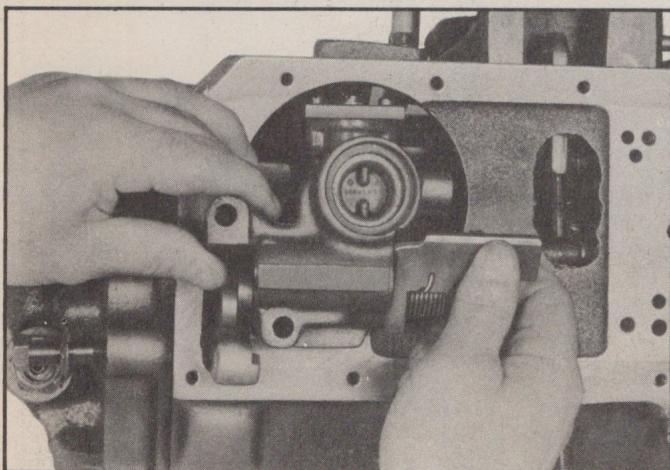

Fig. 117—Removing Parking Brake Bracket Assembly
11. Remove bolts from bracket assembly and remove piston release spring stop and spring. Carefully remove sleeve from governor to avoid damage to oil rings (Fig. 117).